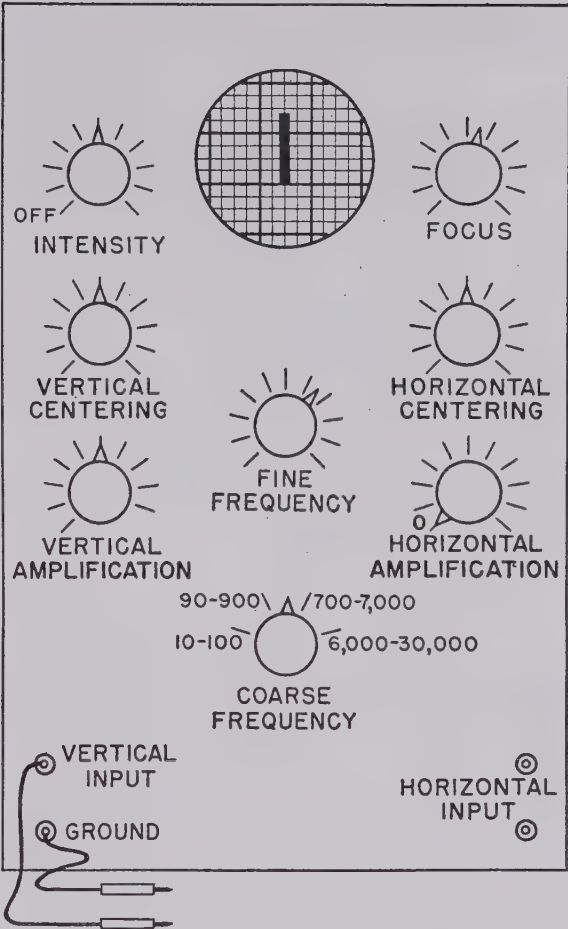

Figure 1 1 Typical oscilloscope.
- (1) An oscilloscope gives a visual indication on a crt (cathode-ray tube) of any a-c voltage waveform applied to the vertical input. An oscilloscope panel is shown in figure 1 1. The name and purpose of each control is indicated in table I. Because there is an internal coupling capacitor, the oscilloscope input leads can be placed at a point where there is only ac, or where there is both ac and dc.
- (2) The oscilloscope can be used as an output meter, an a-c voltmeter, or a distortion meter. When it is used as an output indicator, the horizontal gain control can be set at 0. The output of the receiver, then, will show as a vertical line increasing in amplitude as the output increases (fig. 1 1). The trace is observed for maximum height without attempting exact measurement. The oscilloscope also can measure the exact amplitude of the a-c signal by first feeding a known voltage to the input and observing its exact height. The signal to be measured then is fed to the input and its amplitude is compared with that of the known voltage. The vertical amplitude control of the oscilloscope *is not to be varied* when the unknown signal is fed to the input. The oscilloscope can measure peak